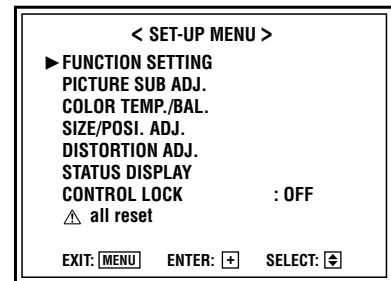

Fig. 1
- 2) The SET-UP MENU appears (Fig. 1).